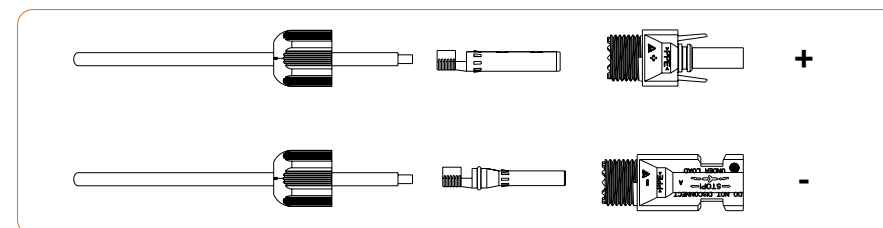

Figure 4-11
③ Disassemble the connector in the accessory bag, as shown in Figure 4-11: